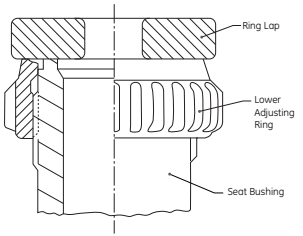

Figure 16: Bushing Seat Assembly
- 14. Loosen the lower adjusting pin until the pin is slightly clear of the notches in the lower adjusting ring. Being careful not to move the lower adjusting ring, place a ring lap on top the bushing seat. (See Figure 16). Then, using the ring pin as a "pointer", or reference point, rotate the lower adjusting ring counterclockwise and count the number of notches that pass in front of the "pointer" until contact is made with the ring lap. Record this information, as it will be required to correctly re-assemble the valve.